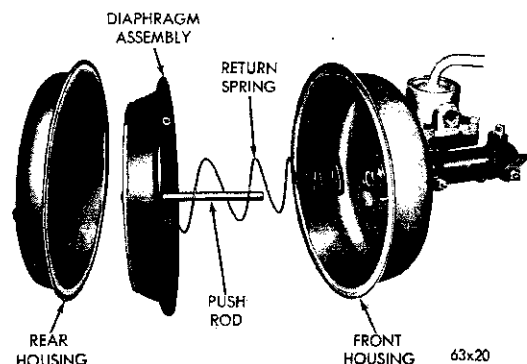

Fig. 36—Remote Control Booster Assembly (Disassembled)
(1) Disconnect the by-pass tube from the connector on the side of the control valve housing. Pull the by pass tube rearward and out of the rubber grommet in the rear housing.
(2) Scribe a reference line on the two housings of the booster and on the clamping band, and remove the nut and bolt from the clamping band. Remove the clamping band and the front housing.
(3) Pull outward on the diaphragm to remove the power piston assembly (diaphragm, push rod, and diaphragm return spring) (Fig. 36). Bend back the three tabs on the diaphragm plate to disengage the diaphragm return spring. Remove the lock nut from the end of the push rod and pull the push rod out of